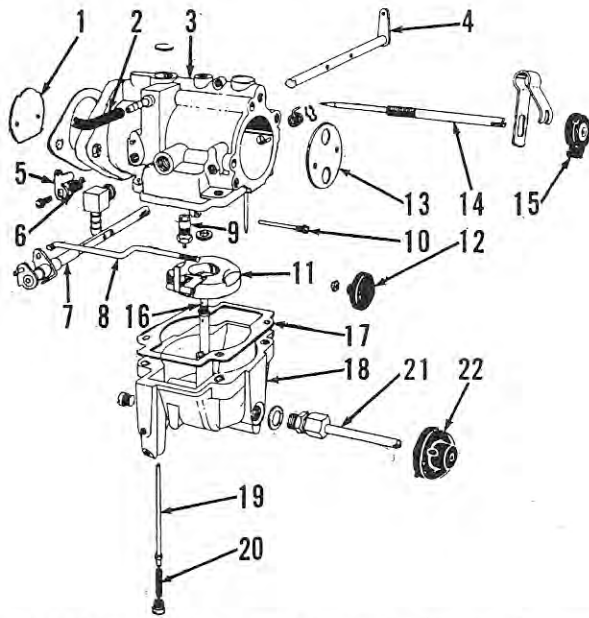

Fig. Mc103—Exploded view of the Tillotson carburetor used on some early models.
Tillotson Model OM4A: Refer to Fig. Mc103. Carburetor is provided with two mixture adjustment needles. The idle adjustment needle (14) should be initially adjusted to 1 1/2 turns open from the closed position. Recommended initial adjustment of the high speed adjustment needle (21) is 1/2-turn open. Final adjustment should be made under load after the engine is warm. First adjust the idle mixture needle for smooth operation; then adjust the high speed mixture needle with speed control FULLY advanced. Do not cut throttle back to the economy position. Clockwise rotation of either needle leans the mixture.